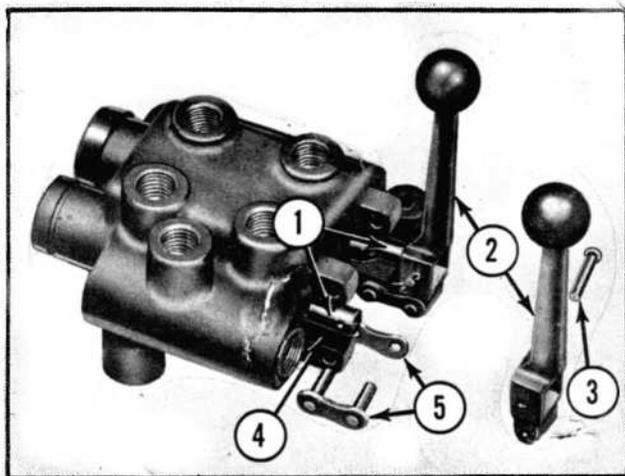

Figure 18
1. Make certain the valve spools (1), Figure 18, are free of paint or burrs that would destroy the U-cup seals in the valve body.
2. Position the handles (2) Figure 18, over the